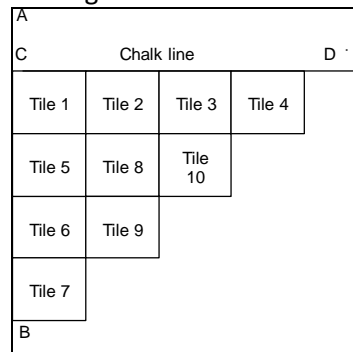

Figure 4
5. Place another three tiles (Fig 4) in the corner of the angle. Tiles 8,9,10.